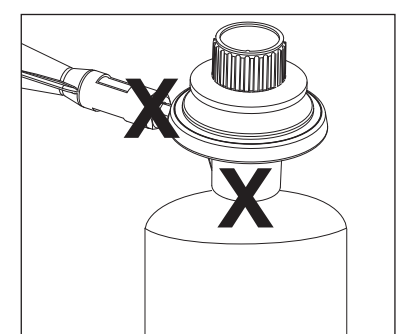

Figure 6
5. Insert a long lit match close to the burner through the hole in bottom bowl as indicated (Figure 6).